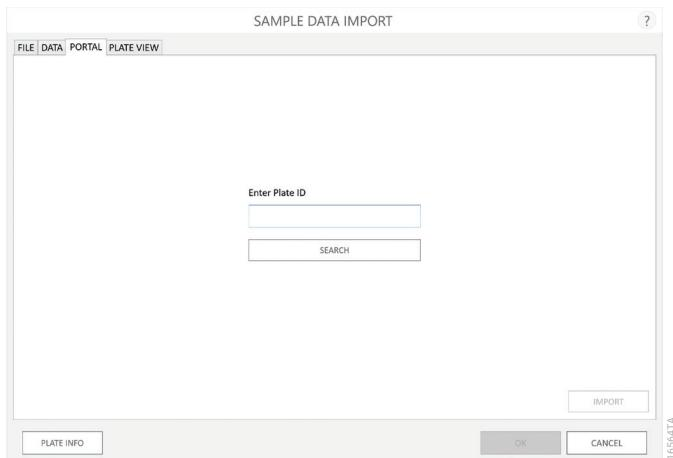

Figure 43. Portal Tab on the ‘Sample Data Import’ screen. Use the Portal tab to retrieve plate map information from the Portal software.
4. From the ‘Sample Data Import’ screen, tap the Portal tab (Figure 43).